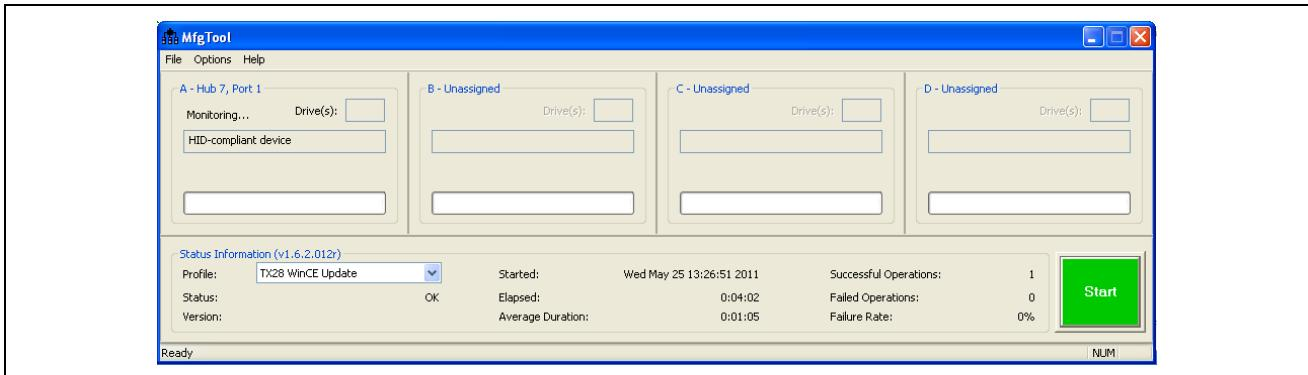

Figure 8 MfgTool Connected
- 13 If the sensor node is detected the Monitoring... text control should display "HID-compliant device" as shown in Figure 8.